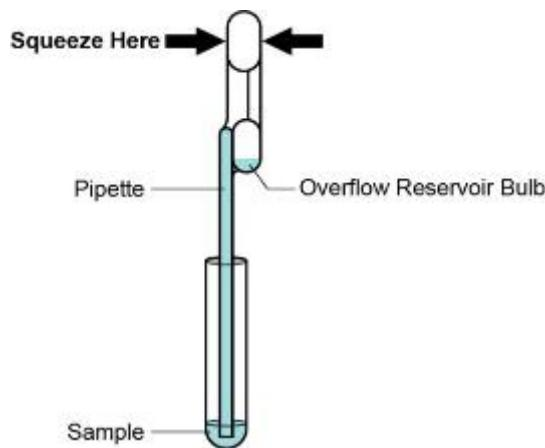

Figure 12. Transfer Pipette
5. Squeeze the top bulb of the transfer pipette **completely until the top bulb is fully flat**. While continuing to hold the bulb fully flat, place the pipette tip in the specimen transport tube (see Figure 12).
6. Keeping the pipette below the surface of the liquid, release the top bulb of the pipette to fill the pipette before removing from the tube. After filling pipette, excess sample will be seen in the overflow reservoir bulb of the pipette (see Figure 12). Check that the pipette does not contain bubbles.